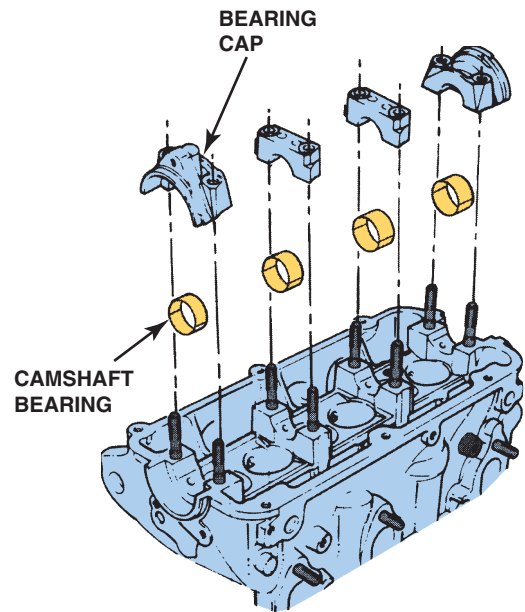

FIGURE 31-43 Some overhead camshaft engines use split bearing inserts.
- Camshaft bearings used on overhead camshaft engines may be either full round or split depending on the engine design. ● **SEE FIGURE 31-43.**